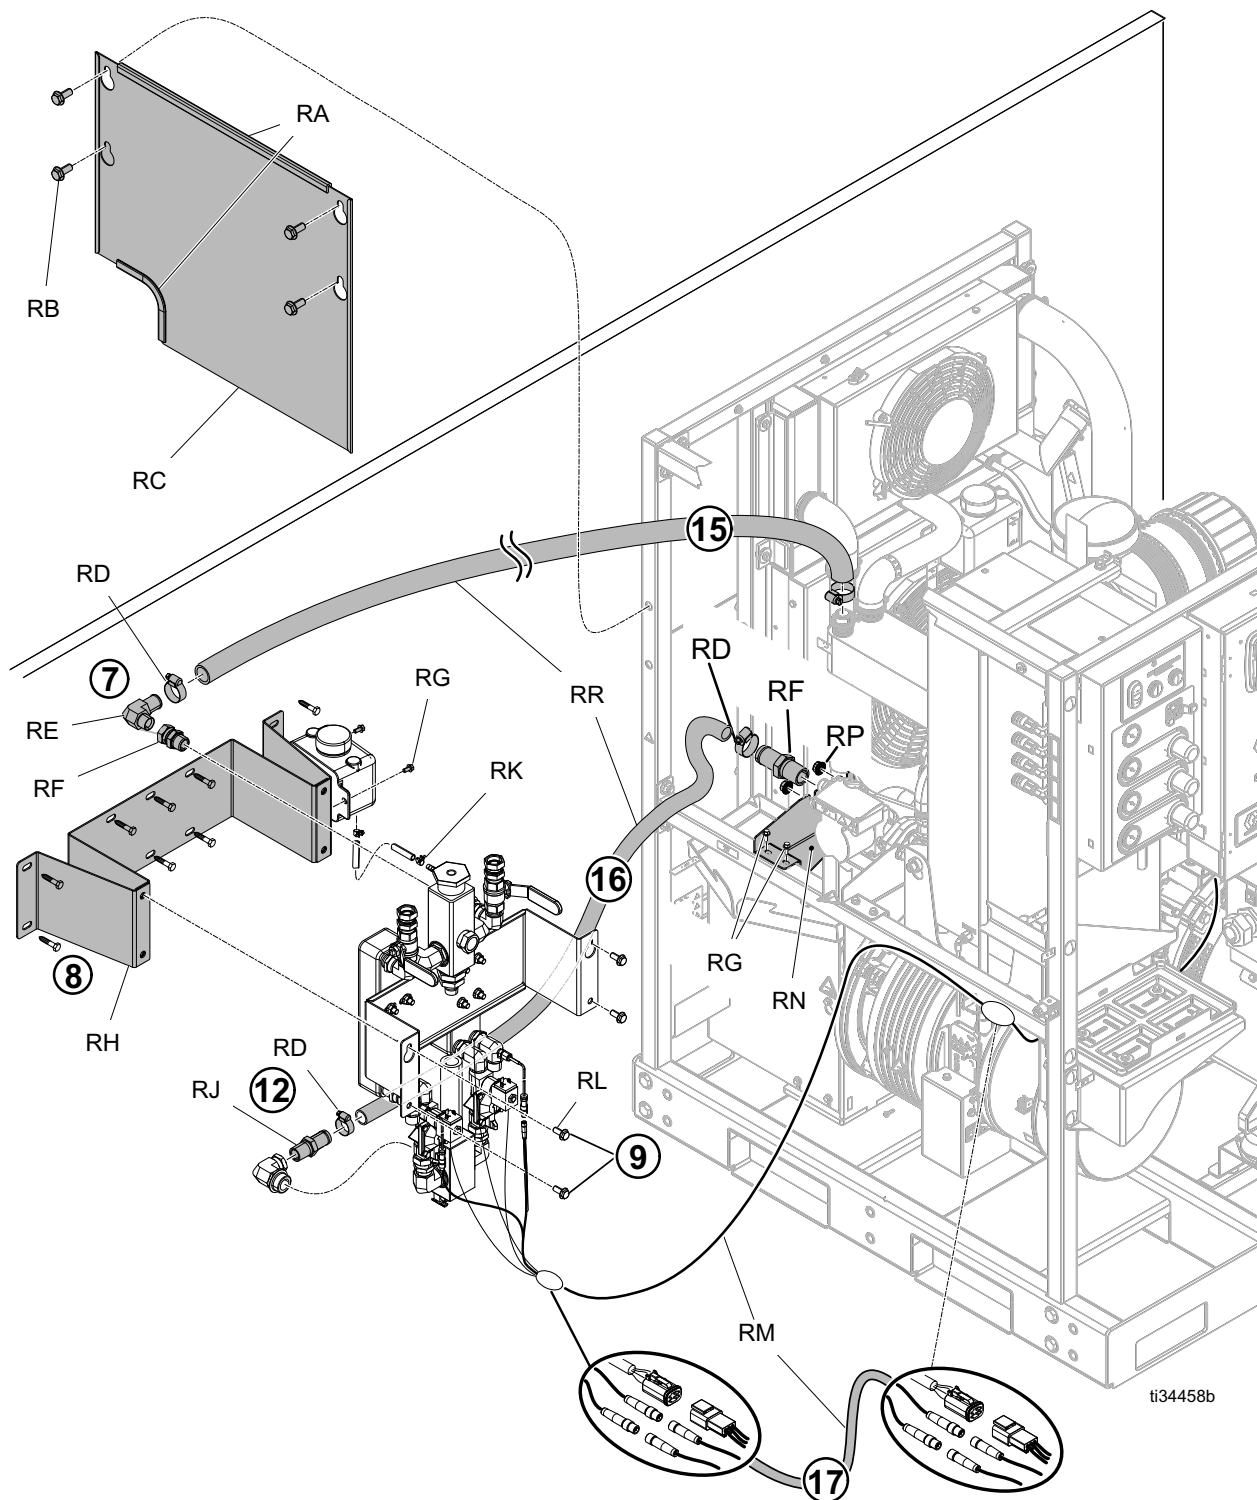

FIG. 17: Relocate the Heat Exchanger
7. Install the street elbow hose barb fitting (RE) onto the swivel fitting (RF). See FIG. 17.
8. Secure the heat exchange relocation bracket (RH) at the same height as the heat exchanger was mounted on the system.